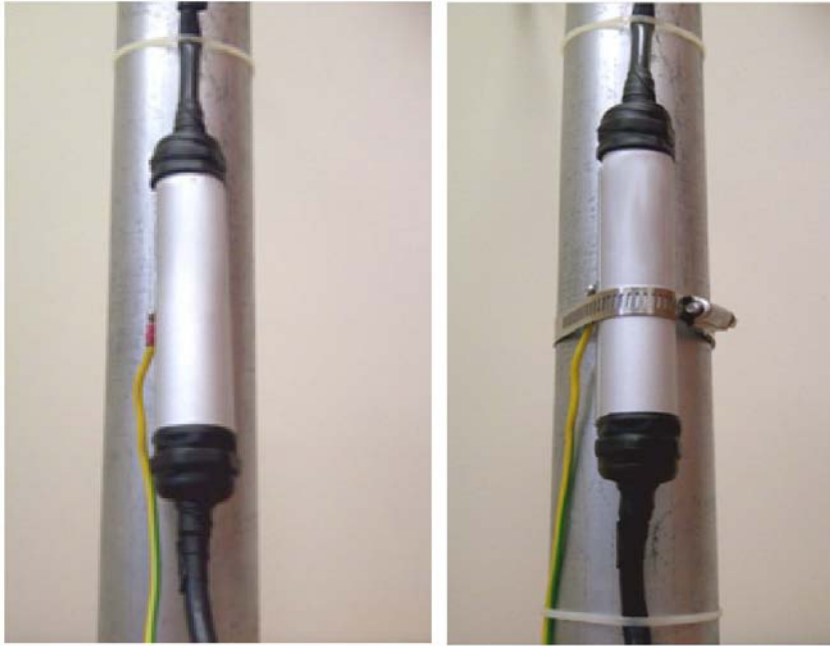

Figure 4-51: Mounted and strapped to the pole
6. Mount the unit on the pole using the mounting ring as shown in Figure 4-51. Ground the unit using the GND screw. For lightning protection, repeat the same procedure to install the second unit connected to the IDU.